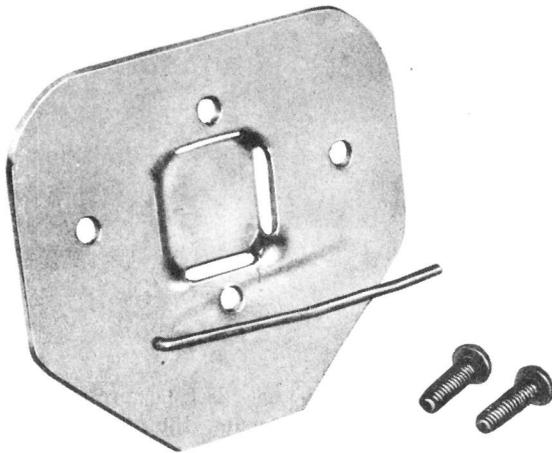

Fig. 25—114A Bracket
- 114A bracket (Fig. 25)—use with 123A1A, 123B1A or 128A1A-2 protectors for indoor or outdoor locations.